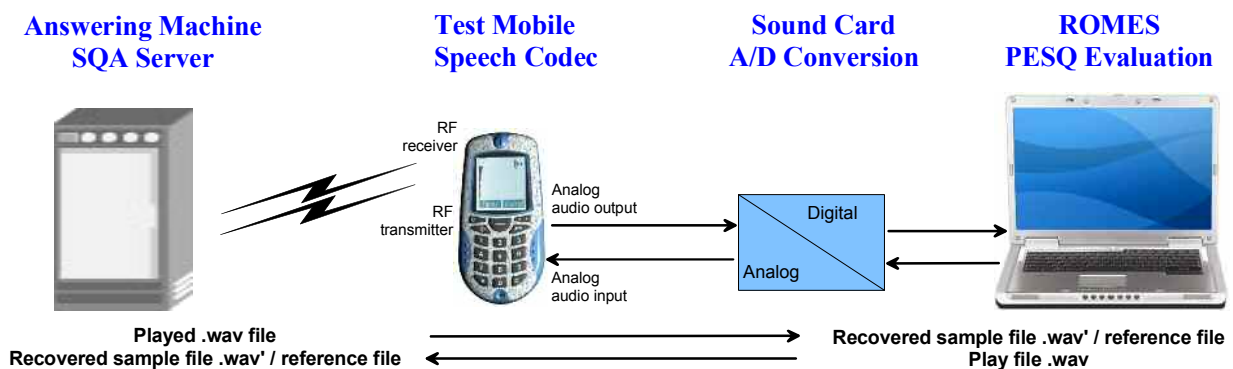

Fig. 6-139 Basic SQA Test Setup
1. Establish the basic test setup according to Fig. 6-139 on p. 6.247, ensuring that the answering machine/SQA server and the local PC contain copies of the same *.wav file.